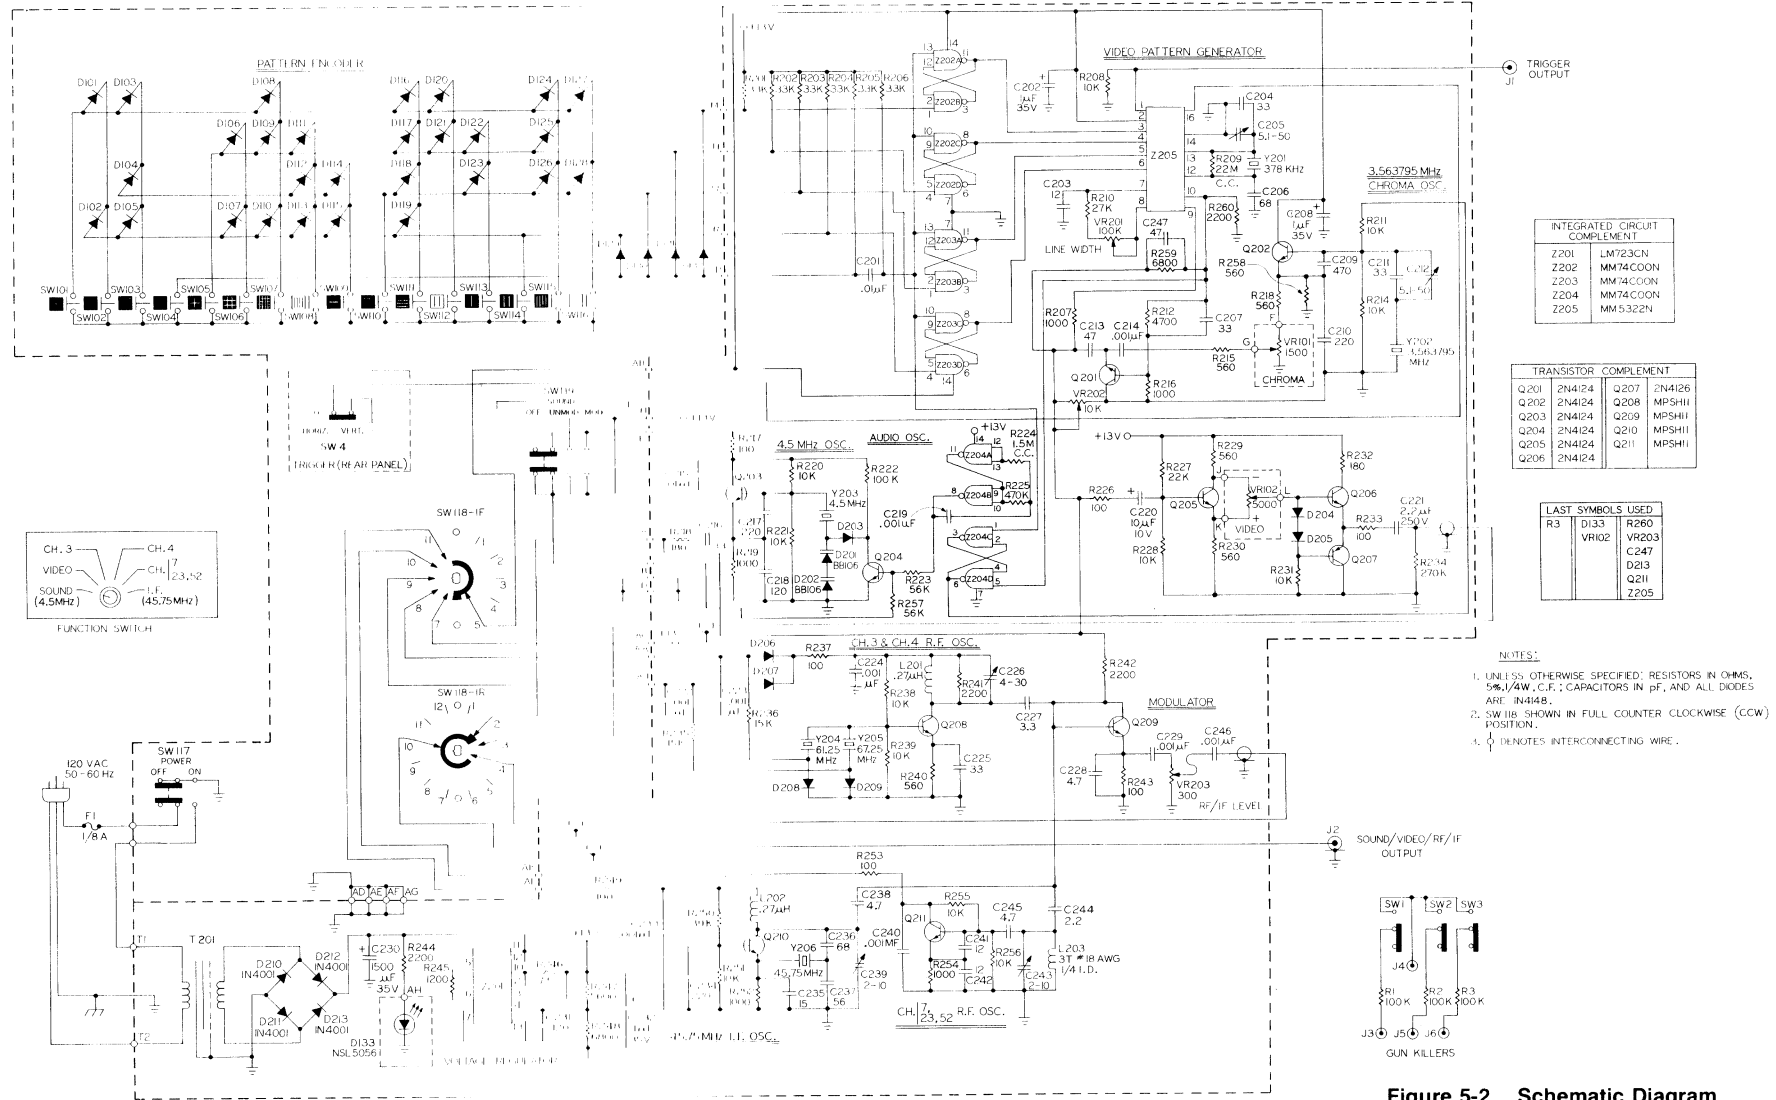

Figure 5-2. Schematic Diagram
5.5 CHROMA OSCILLATOR (See Figure 5-2, Schematic Diagram)
5.6 VIDEO AMPLIFIER AND CHROMA GATE (See Figure 5-2)
5.8 RF/IF OSCILLATORS (See Figure 5-2)
5.9 AUDIO AND SOUND CARRIER OSCILLATORS (See Figure 5-2)
5.10 MODULATOR (See Figure 5-2)